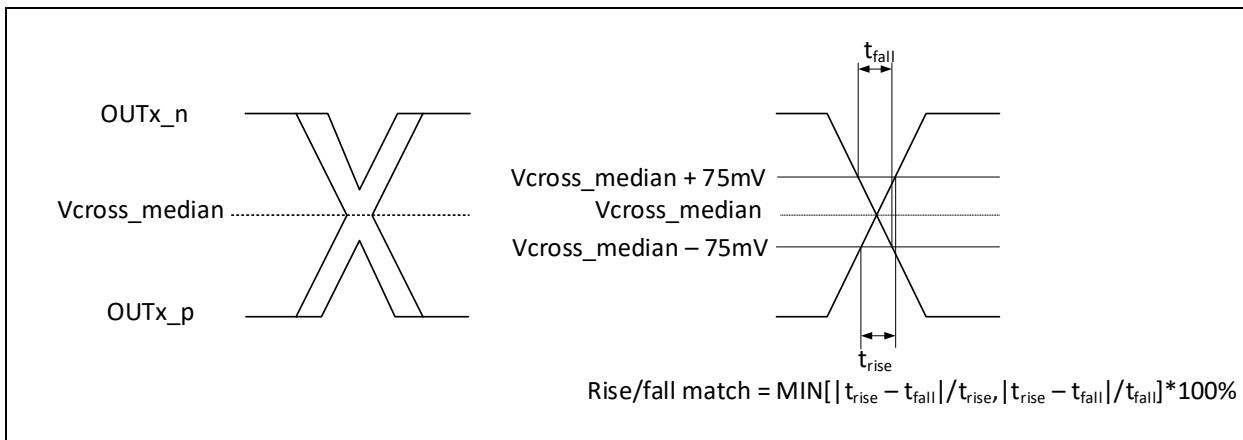

Figure 20. Single-Ended Measurement Points for Rise and Fall Time Matching
(12) Matching applies to rising edge rate for CKx and falling edge rate for CK#x. It is measured using a ±75 mV window centered on the median cross point where CKx rising meets CK#x falling. The median cross point is used to calculate the voltage thresholds the oscilloscope is to use for the edge rate calculations. The Rise Edge Rate of CKx should be compared to the Fall Edge Rate of CK#x the maximum allowed difference should not exceed 20% of the slowest edge rate. See Figure 20.